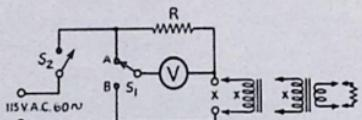

Fig. 9-11 — Simple impedance-measuring gadget. Unknowns are compared against known resistances as described in the text.
**S**HOWN in Fig. 9-11 is a handy gadget that can be used to measure directly the impedance of chokes, transformers, large paper condensers,